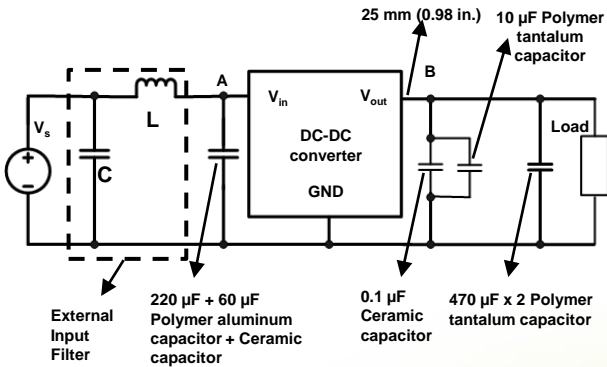

Figure 45: Test set-up diagram
1. Measure the output voltage ripple at B ($25\ \text{mm}$ [$0.98\ \text{in.}$] away from the V_{out} pin) shown in Figure 45.